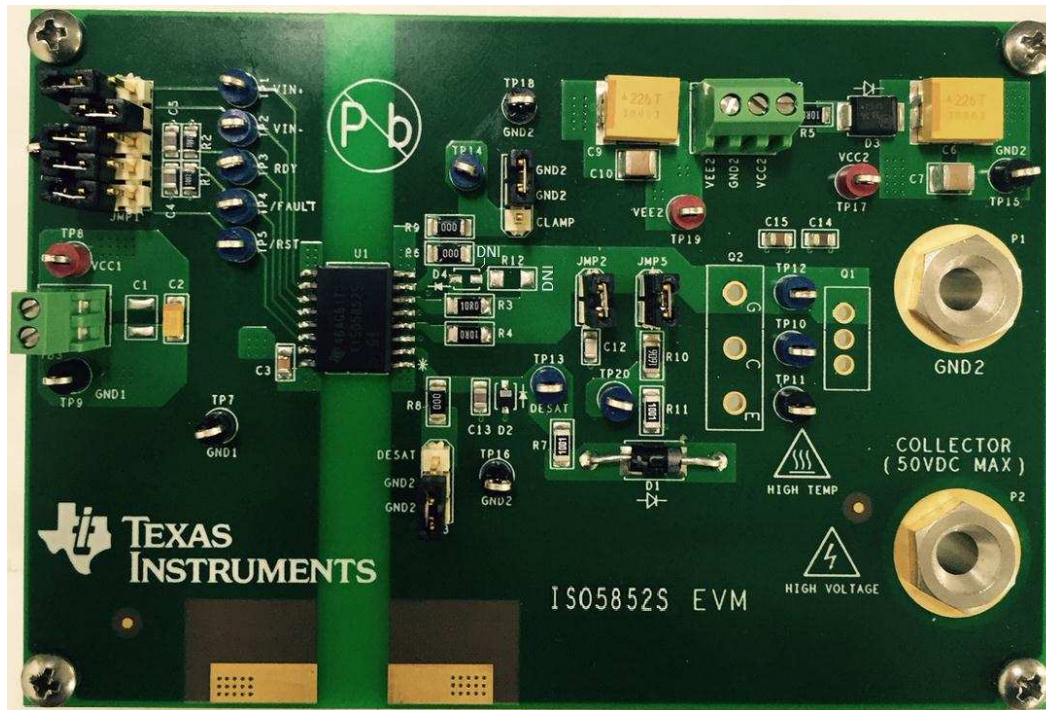

Figure 10. ISO5852S EVM
The ISO5852S is an isolated gate driver with several important features. The printed-circuit board (PCB)/EVM, as shown in Figure 10 ISO5852S EVM, has been designed to support the ISO5852S device and to allow the user to evaluate its basic operation and features. The left side of the PCB contains the interface to the input, control, and status functions of the integrated circuit (IC). The right side of the PCB has been designed to interface to an IGBT. No electrical connections exist between the right and left sides of the PCB.
The following table pertains to the labels on the EVM board (Figure 10):